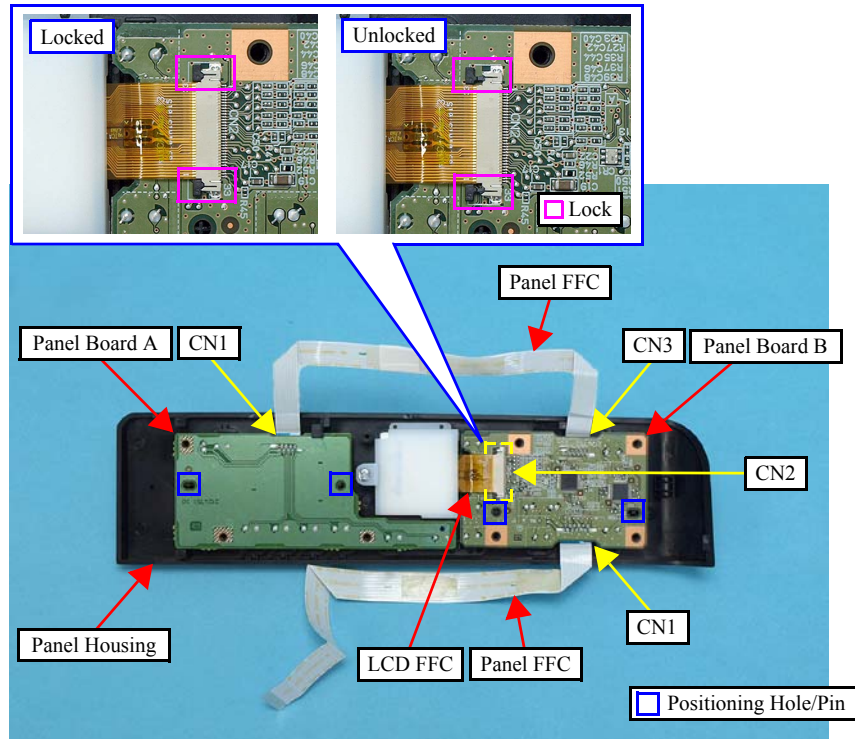

Figure 4-150. Removing the Panel Board
- When installing the Panel Board A/B, attach them while aligning the positioning holes (x4) and the pins (x4). (See Figure 4-150.)
- When connecting the LCD FFC to the Panel Board B, lock the connector (CN2) securely. (See Figure 4-150.)